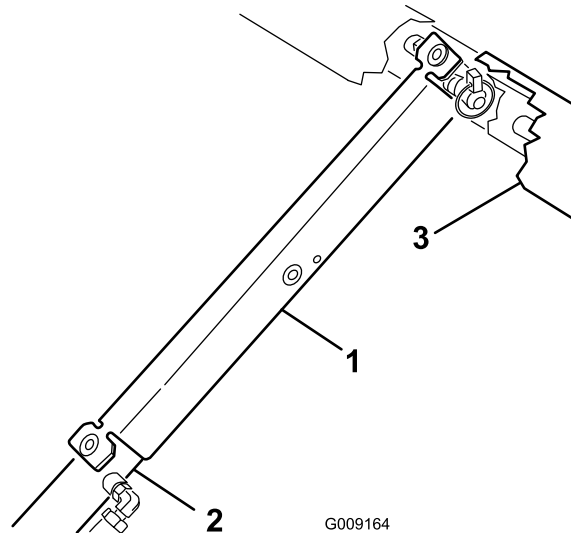

Figure 28
3. Push the bed support onto the cylinder rod, ensuring that the support end tabs rest on the end of cylinder barrel, and on the cylinder rod end (Figure 28).